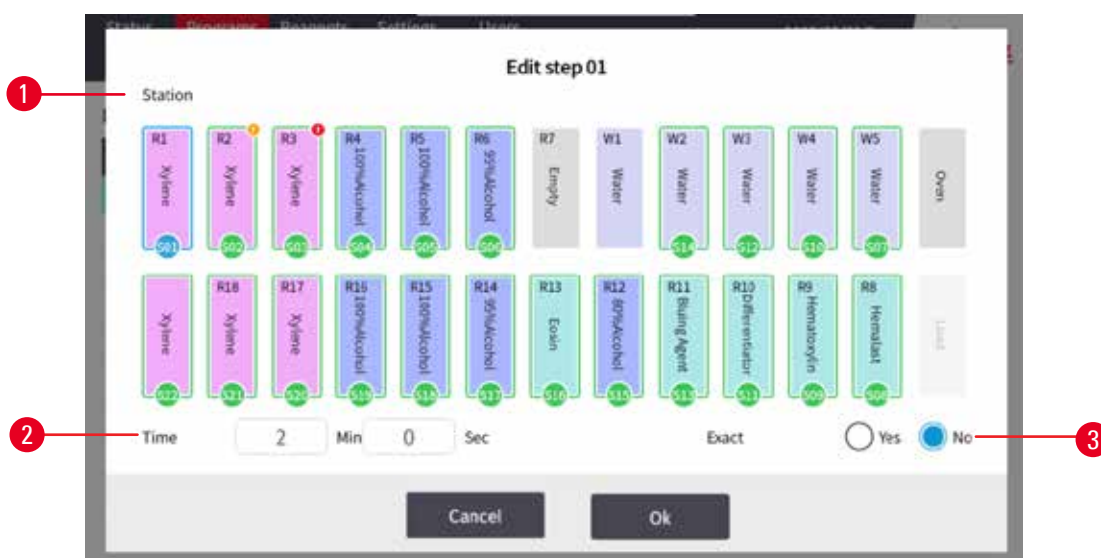

Fig. 20
3. Enter the steps details (→ Fig. 20) and confirm with **OK**.